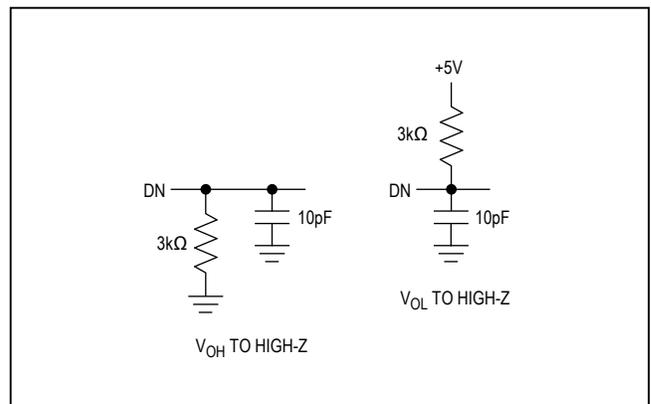

Figure 2. Load Circuits for Three-State Output Timing
**Note 5:**  $t_{TR}$  is the time required for the data lines to change 0.5V, measured with load circuits of Figure 2.